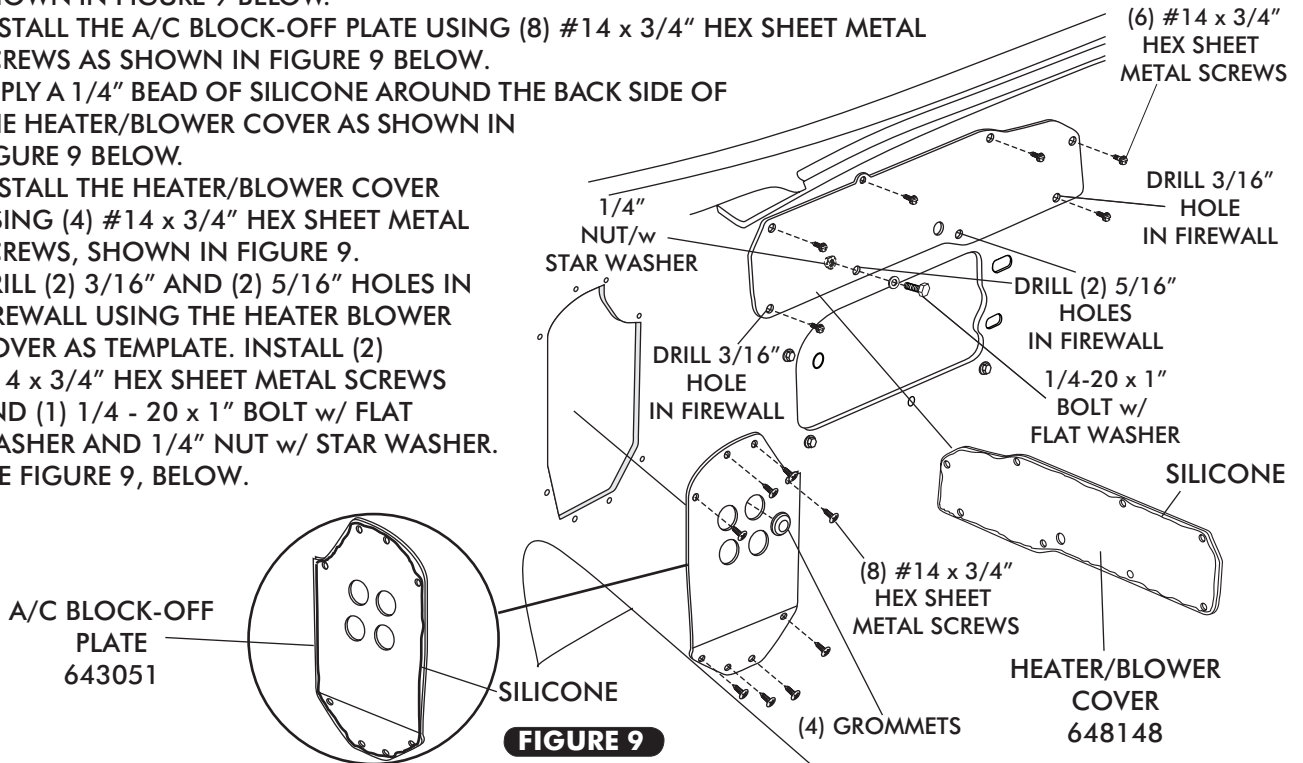

FIGURE 9
- ❑ INSTALL (4) GROMMETS IN A/C BLOCK-OFF PLATE AS SHOWN IN FIGURE 9 BELOW.
- ❑ APPLY A 1/4" BEAD OF SILICONE AROUND THE BACK SIDE OF THE A/C BLOCK-OFF PLATE AS SHOWN IN FIGURE 9 BELOW.
- ❑ INSTALL THE A/C BLOCK-OFF PLATE USING (8) #14 x 3/4" HEX SHEET METAL SCREWS AS SHOWN IN FIGURE 9 BELOW.
- ❑ APPLY A 1/4" BEAD OF SILICONE AROUND THE BACK SIDE OF THE HEATER/BLOWER COVER AS SHOWN IN FIGURE 9 BELOW.
- ❑ INSTALL THE HEATER/BLOWER COVER USING (4) #14 x 3/4" HEX SHEET METAL SCREWS, SHOWN IN FIGURE 9.
- ❑ DRILL (2) 3/16" AND (2) 5/16" HOLES IN FIREWALL USING THE HEATER BLOWER COVER AS TEMPLATE. INSTALL (2) #14 x 3/4" HEX SHEET METAL SCREWS AND (1) 1/4 - 20 x 1" BOLT w/ FLAT WASHER AND 1/4" NUT w/ STAR WASHER. SEE FIGURE 9, BELOW.